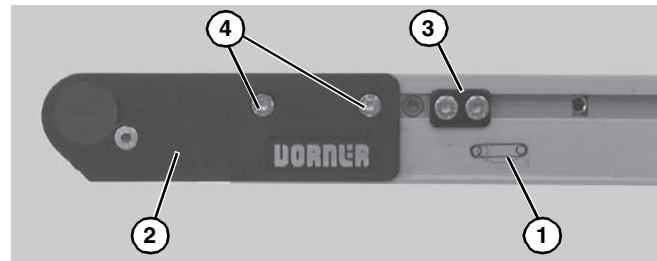

Figure 28
4. On tension end of the conveyor, identified with a  label (Figure 28, item 1), push in head plate assembly (Figure 28, item 2): On both sides of conveyor, loosen and move cam tracking assemblies (Figure 28, item 3) (if equipped) away from head plates, then loosen fastening screws (Figure 28, item 4) and push head plate assembly inward.